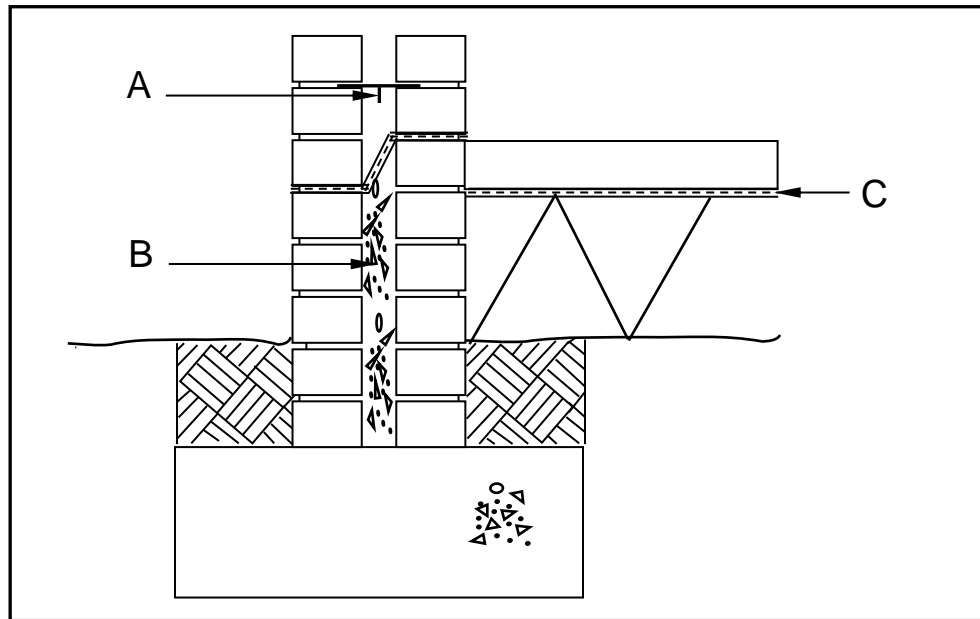

FIGURE 2.10
2.10 FIGURE 2.10 below shows a sectional view of an external wall.
| 2.10.6 | Give the minimum distance of the opening in the wall in FIGURE 2.10. | (1) |